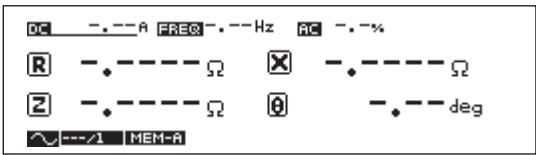

Fig. 1-4 PLZ-4W Series model configuration retrieval error
- Be sure to turn on the PLZ-4W Series first or simultaneously with the KFM2150. If you turn the KFM2150 on first, a response error or error shown in Fig. 1-4 will occur. If an error occurs, turn off the power switches of the KFM2150 and PLZ-4W Series, and carry out the power-up procedure in the correct order.